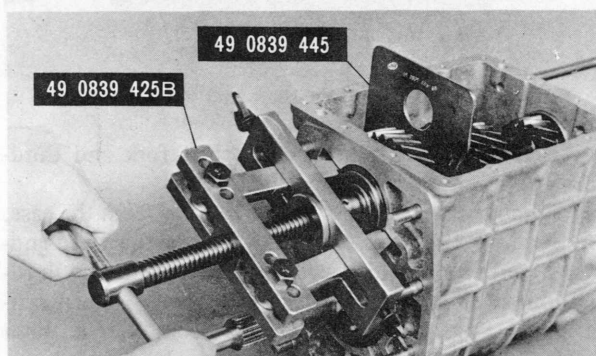

Fig. 7-5 Removing counter shaft front bearing
25. Remove the snap ring that secures the counter shaft front bearing to the front end of the counter shaft. Using the bearing puller (Part No. 49 0839 425B) shown in Fig. 7-5, remove the counter shaft front bearing.